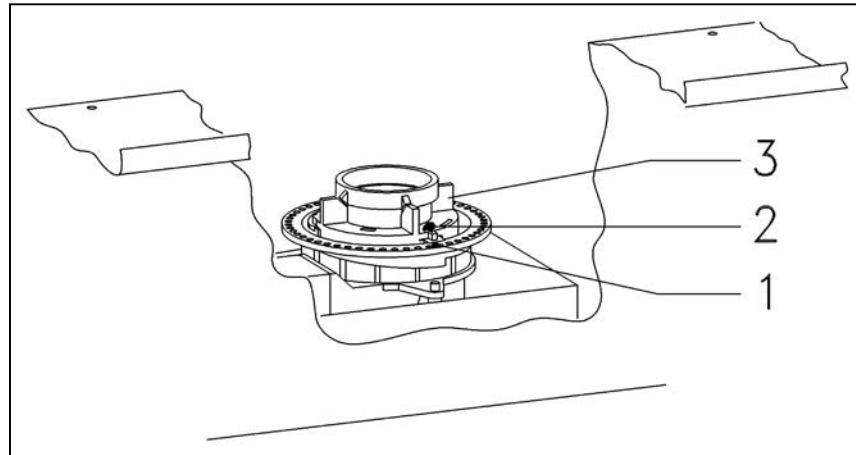

Figure 5-45: Grinder; (1) Adjustment Ring (2) Carrier (3) Bracket.
9. Turn the Adjustment Ring (Figure 5-45, Item 1), counterclockwise until the blue marking aligns with the blue marking on the carrier (Figure 5-45, Item 2).
10. Remove the bracket (Figure 5-45, Item 3)